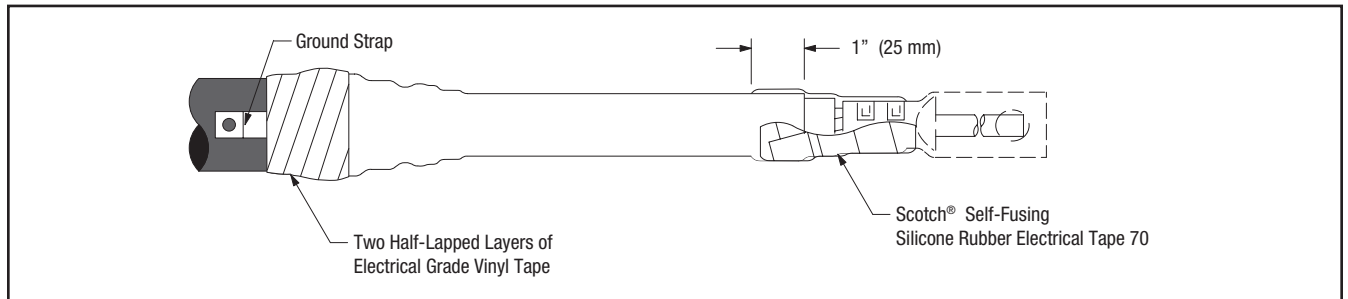

Figure 16
- Wrap two highly stretched half-lapped layers of electrical grade vinyl tape around mastic seal (Figure 16). Overlap the edges of the mastic seal by 1/2" (13 mm) minimum.